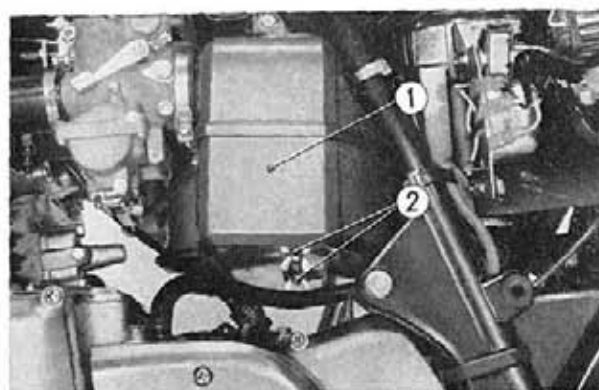

Fig. 15-13 ① Air cleaner cover ② Wing nuts
1. Remove the air cleaner cover by loosening the two wing nuts and remove the air cleaner element. (Fig. 15-13)